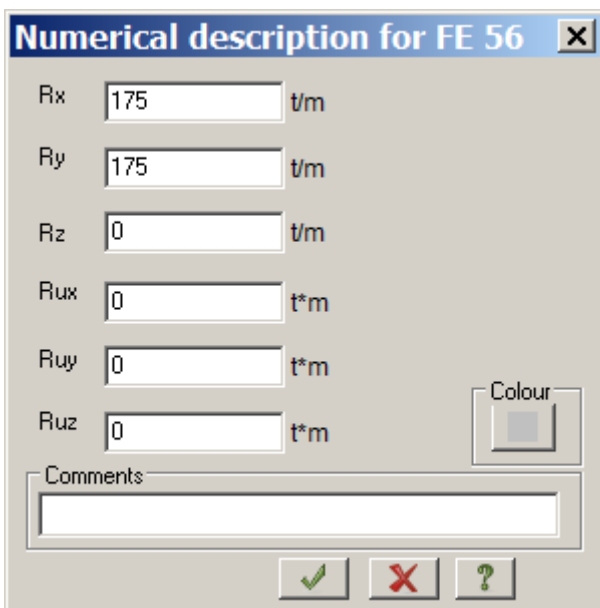

Figure 11.14 Numerical description for FE 56 dialog box
- ⇒ In the **Numerical description for FE 56** dialog box (see Fig.11.14), specify the following parameters for the section: